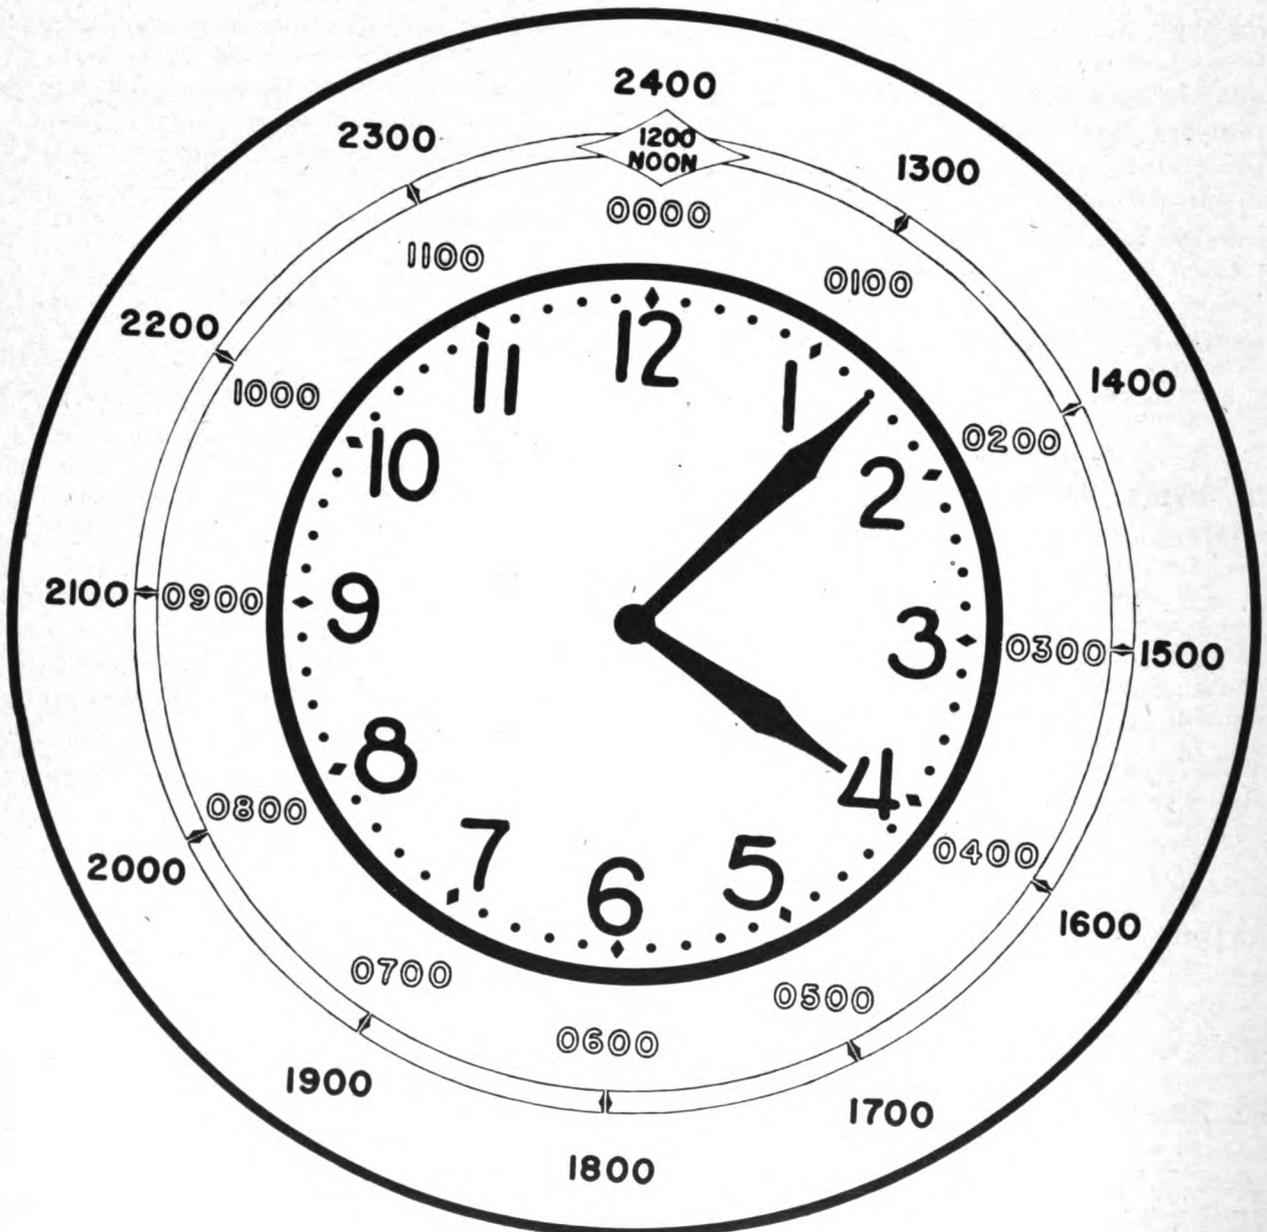

Figure 53. 24-hour time clock.
**HOW TO OBTAIN THE INFORMATION.** Express the time according to the 24-hour system (fig. 53).